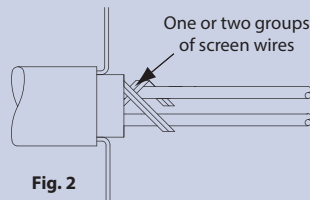

Fig. 2
- 2.3 Unravel one or two groups of wires from the screen wires, then remove the remainder of the screen wires (See Fig. 2).